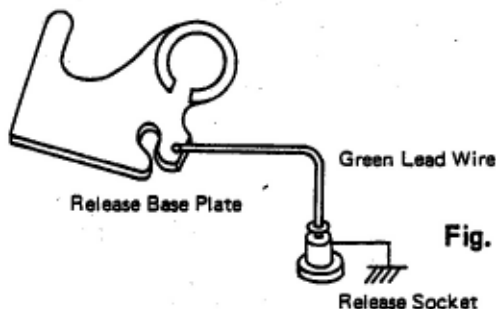
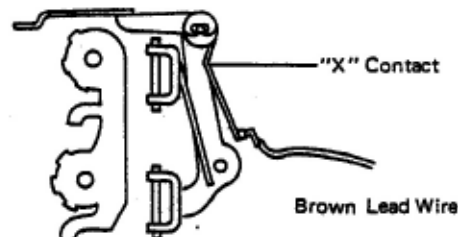

Fig. 19
Fig. 20
- a) Unsolder green lead wire from R. Socket at Release Base Plate (fig. 19) and a brown lead wire at "X" contact (fig. 20).